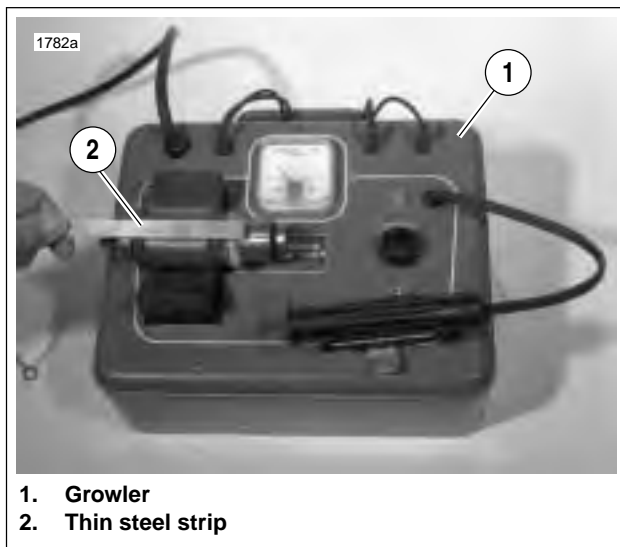

Figure 5-20. Shorted Armature Test Using Growler
9. See Figure 5-20. Check for SHORTED ARMATURE with a growler.
- Place armature on growler (1).
- Hold a thin steel strip (2) (hacksaw blade) against armature core and slowly turn armature.